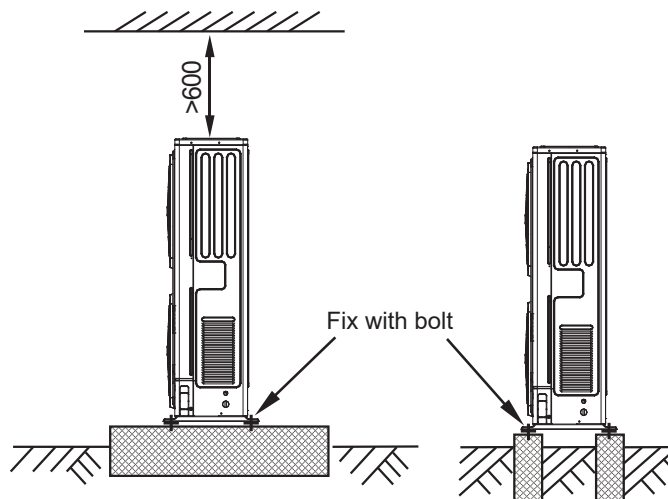

Figure 36.
- Make concrete foundation according to the specifications of the outdoor units. Refer to Figure 36.
- Fasten the feet of this unit with bolts firmly to prevent it from collapsing in case of earthquake or strong wind. Refer to Figure 36.